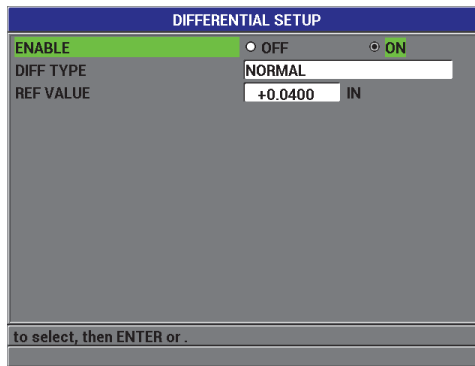

Figure 5-2 The DIFFERENTIAL SETUP screen
3. In the **DIFFERENTIAL SETUP** screen (see Figure 5-2 on page 93):